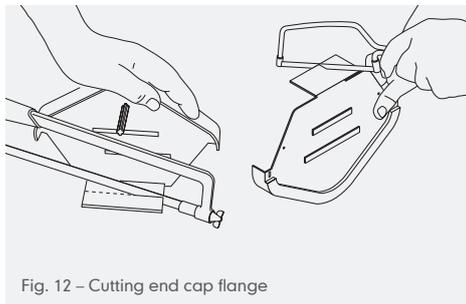
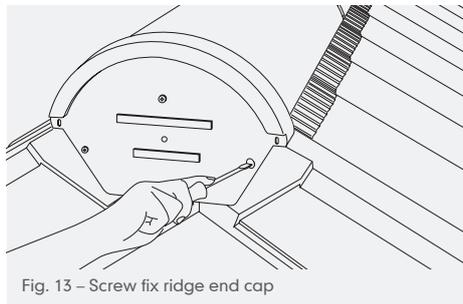

Fig. 12 – Cutting end cap flange
Fig. 13 – Screw fix ridge end cap
13 If required, trim flange of ridge and cap to fit between top course verge units (Fig. 12, page 143). Screw ridge end cap to end of dry ridge batten by locating 30mm stainless steel screws into end of circular beads on upper flange (Fig. 13, page 143).
- 14 Screw ridge end cap through top course verge unit, to end of top course tiling batten. Locate 30mm stainless steel screw (provided) through lower, partly formed fixing holes (Fig. 13).
- 15 If required, trim flange of ridge end cap to fit between top course verge units. (Fig. 12). Top course verge unit is secured to end of top course tiling batten in normal manner.